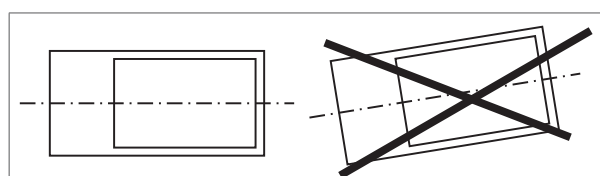

Figure 3 - A correct and incorrect horizontal orientation
- Install the heater horizontally without an inclination (figure 3).